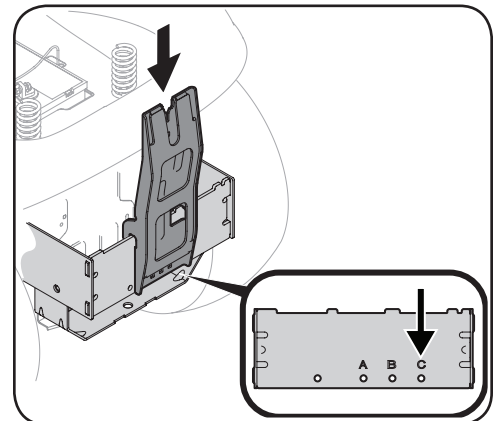

Figure 4-6
1. Install the upright support bracket onto the mounting assembly on the tractor by hooking it over the cross mounting bracket. See Figure 4-6.
2. Align the upright support bracket with the hole labeled "C". See inset in Figure 4-6.